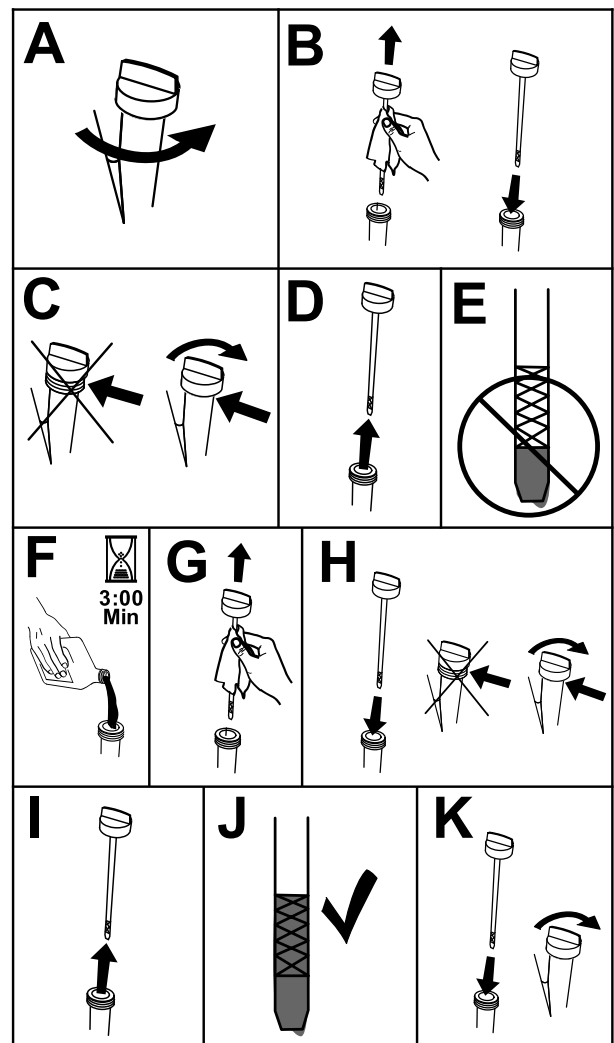

Figure 40
3. To keep dirt, grass clippings, etc., out of the engine, clean the area around the oil-fill cap and dipstick before removing it (Figure 40).